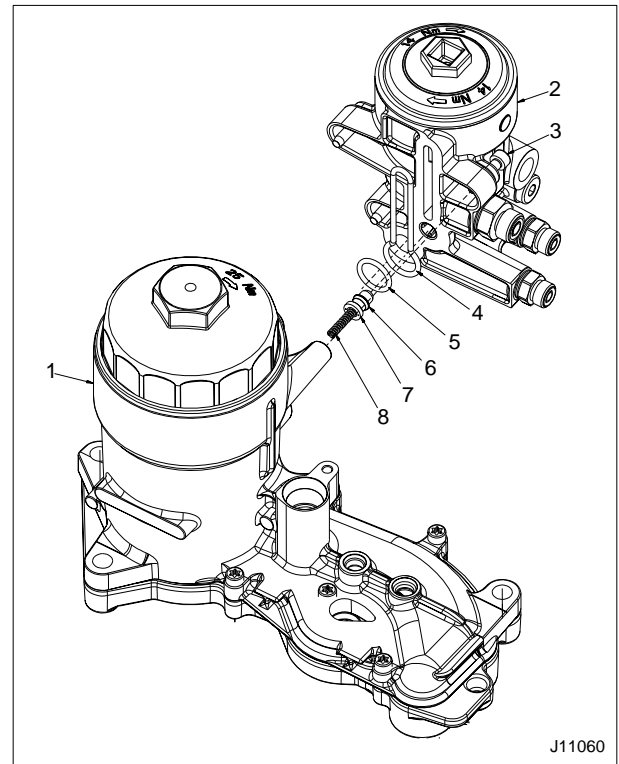

Figure 563 Pressure regulator poppet assembly
2. Check poppet valve and spring for signs of misalignment. Inspect poppet gasket seal (Figure 563) for signs of uneven seating with the fuel filter housing.